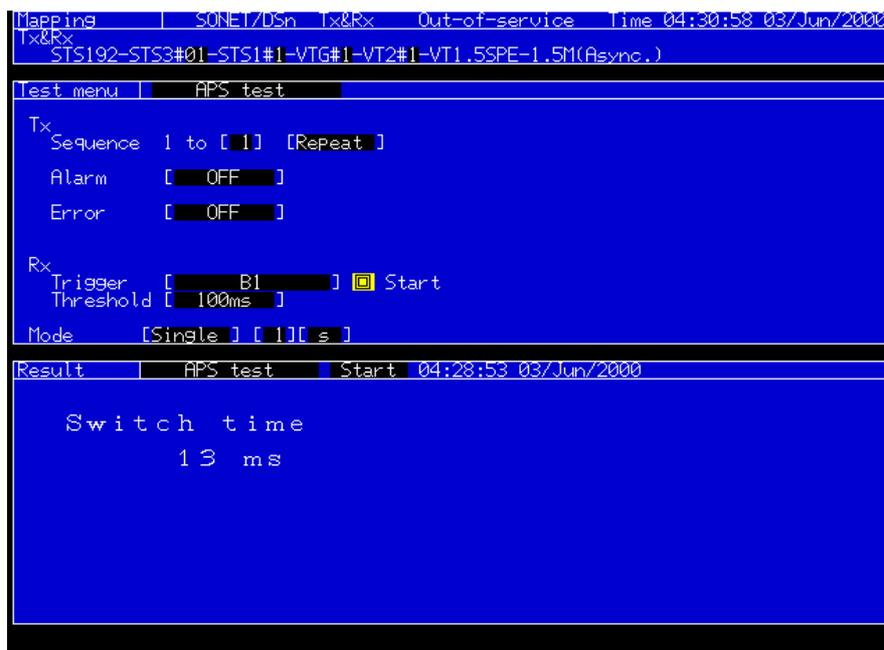

Figure 2.7: APS Switch Time Measurement Result
- (2) Break the connection manually between the **Node A** and **Node B**. The MP1570A will receive errors and accordingly the “Error” LED will be ON.
- (3) Observe the APS Switch Time measurement result in the “**RESULT**” menu screen as in **Figure 2.7** below.